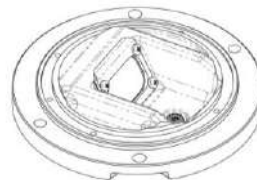

Figure 5-10
- Place the prism pressing bracket and prism washer to the working position and screw the M5×12 screws into the threaded holes after dipping a little of anaerobic adhesive (see Figures 5-10 );